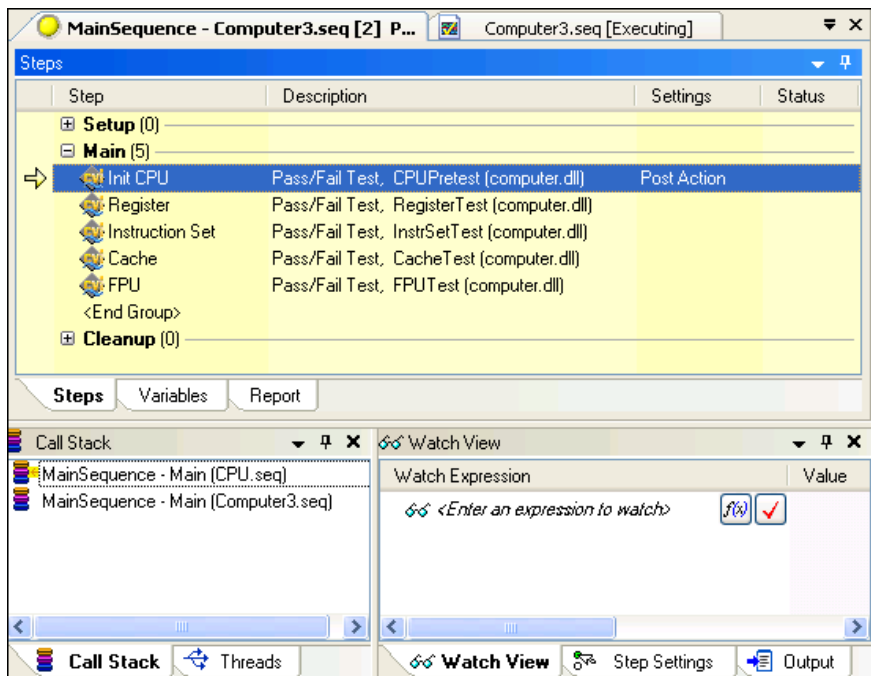

Figure 4-2. Steps Pane and Call Stack Pane while Suspended in Subsequence
4. Select **Debug»Resume** to continue the execution. After you make this selection, the sequence editor suspends the execution on the CPU Test step. Click the **Step Into** button to step into the subsequence and click the **Call Stack** pane. Figure 4-2 shows the Execution window Steps pane and Call Stack pane after you step into the subsequence.
The Call Stack pane shows the call stack for the execution. A yellow pointer icon appears to the left of the most nested sequence invocation, as shown in Figure 4-2.